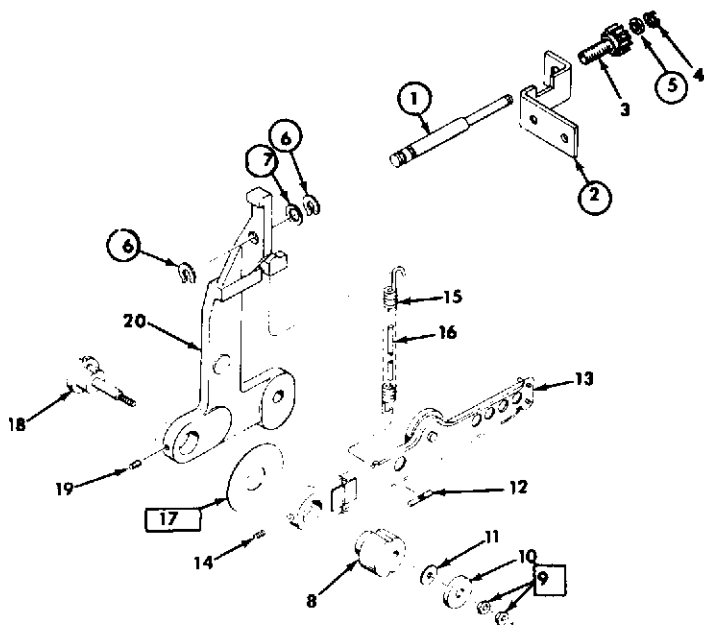

Figure 3-14. CLAW ARM COMPLETE
**2. Claw Arm Complete (Fig. 3-14)**
- a. Lubricate periphery of rod (1) and bearing surfaces of washers (5 and 7), ring (6), bracket (2) and spring loop groove of item (12) with DC-44 grease.
- b. Lubricate interfaces between claw arm assembly (13) and washer (17) with FS-1290 grease.
- c. Adjust nuts (9) to obtain minimum endplay of .001 to permit claw arm to pivot freely with framing arm before spring (15) is assembled.
- d. Apply Glyptal 7526 to nuts (9) and washer (10).